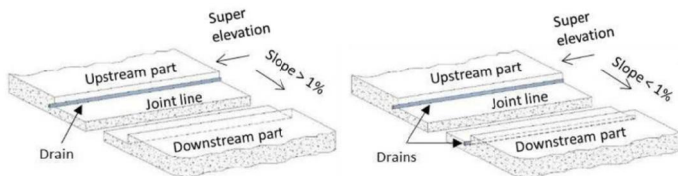

Figure 2 (Drain Installation)
- Install the drain as shown in Figure 2 and according to the manufacturer's recommendations to facilitate the evacuation of any water within the pavement thickness.